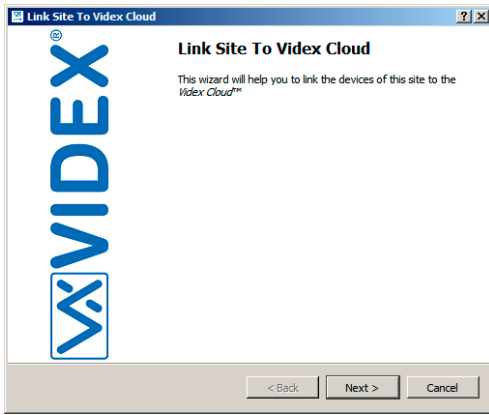

Fig. 32 Click on Videx Cloud-> Link Site to Videx Cloud
- Click on "Videx Cloud-> Link Site to Videx Cloud" (Fig. 32) then click on the "next" button.